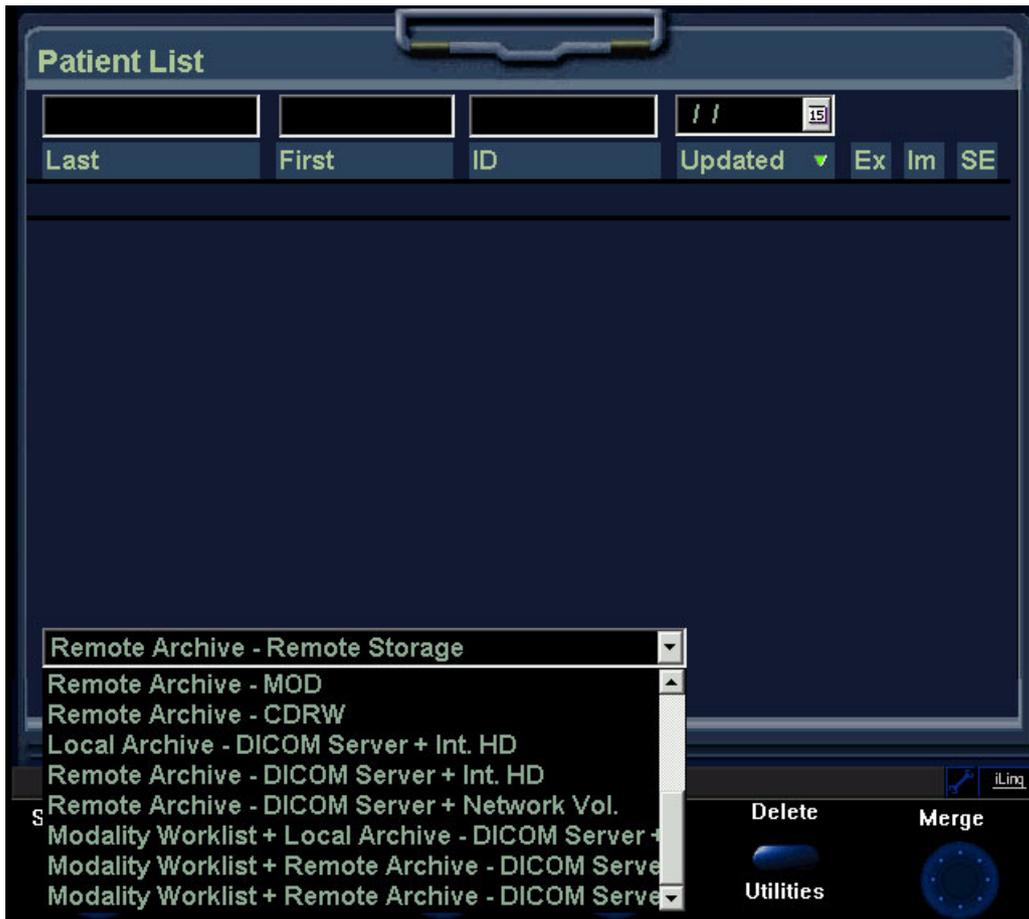

Figure 3-46 Patient List Window
- 1) Press the **Archive** button on the control console. The *Patient List* window is displayed, as shown in Figure 3-46 on page 3-64.